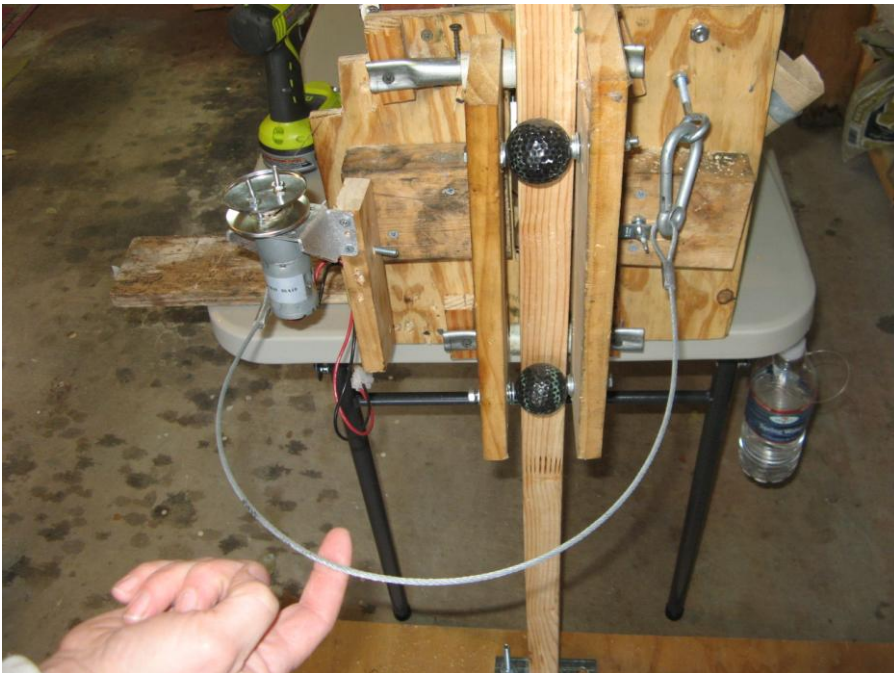

Figure 6.2 Example of safety cable on robot (note: robot is mounted to a wooden "test" pole)
- (b) The robot must have a safety cable attaching it to the tower connecting to the two 1/4" eyebolts provided in the Consumable Kit. See figure 6.2